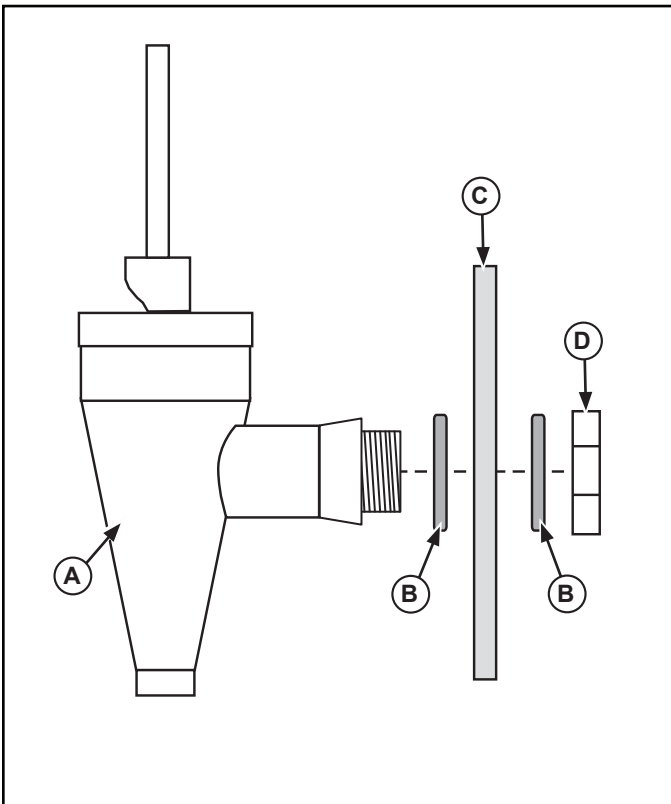

Figure 1. Valve Installation Components.
4. Hold the valve (J) and slide one of the washers (B) over the threads of the valve. See Figure 1.